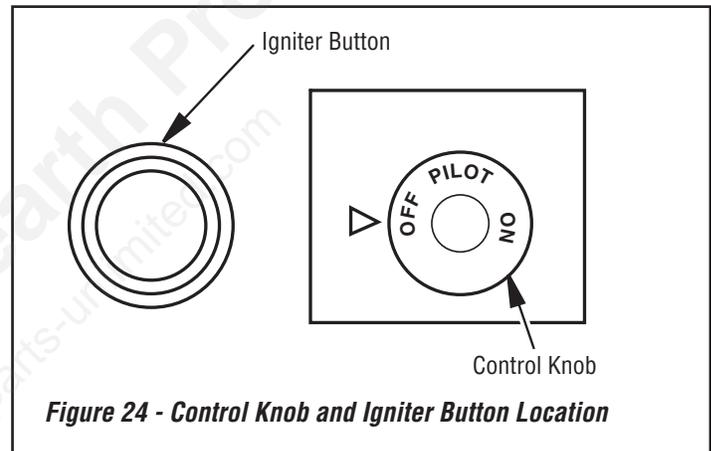

Figure 24 - Control Knob and Igniter Button Location
5. Wait five (5) minutes to clear out any gas. Then smell for gas, including near the floor. If you smell gas, STOP! Follow "B" in the safety information, column 1. If you don't smell gas, go to the next step.
6. Press in and turn control knob counterclockwise ↺ to the PILOT position. Press in control knob for five (5) seconds (see **Figure 24**).